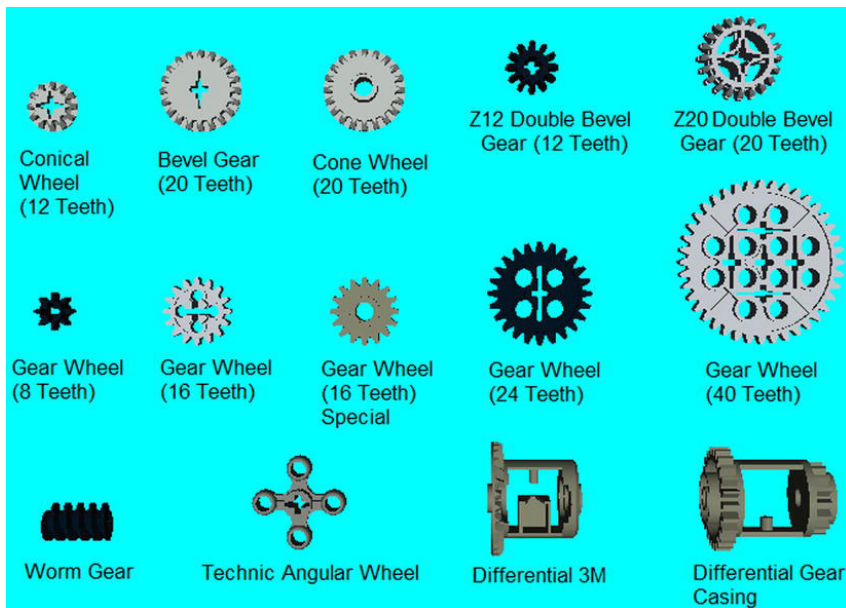

Figure 1-4. A sample of the many gears that work with LEGO Technic
Where would any machine be without the gears that set other gears into motion? These pieces most certainly set the Technic world apart from the usual sets. They come in many forms, as you can see in Figure 1-4.
- Gear: A source for the parts listed in Figure 1-4.